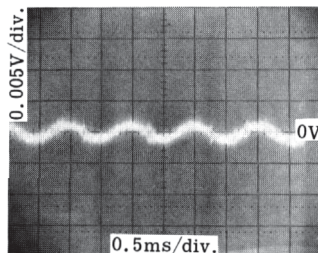

Figure 5-3. Waveform at A4TP3.
- g. Adjust A4R87 OFFSET until dc level of displayed waveform is within  $0\text{mV} \pm 2\text{mV}$ . Refer to Figure 5-3 which shows well-adjusted waveform.